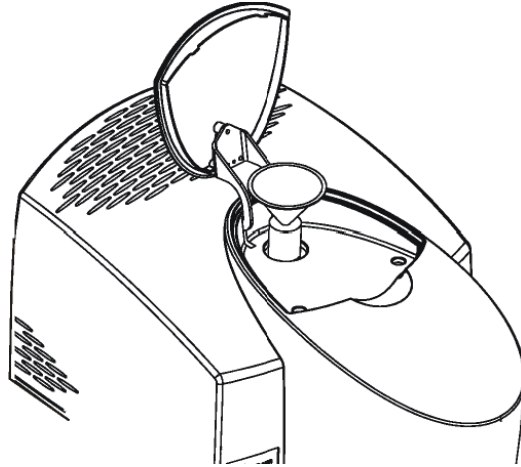

Figure 14 The dewar opening with the funnel inserted
2. Place the small funnel supplied with the imager in the opening in the detector dewar (Figure 14).